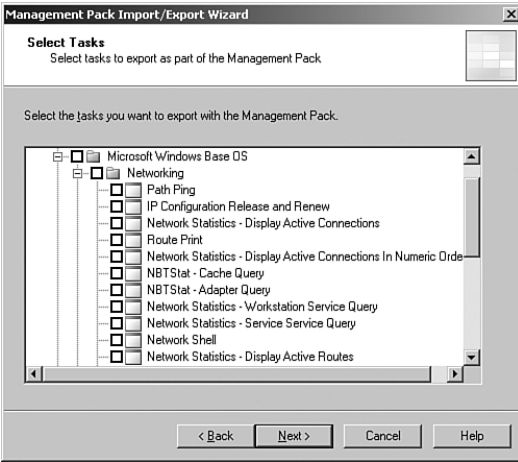

FIGURE 13.11 Select tasks to export with the management pack.
5. On the Select Tasks page shown in Figure 13.11, specify any tasks you want to export with the management pack.